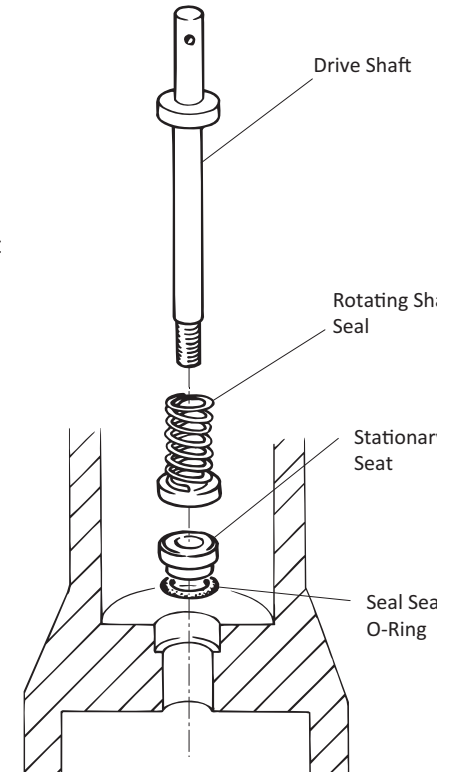

Fig. 21 Replacing the Mechanical Shaft Seal - Laboratory In-Line Mixing Assembly
6.7 REPLACING THE MECHANICAL SHAFT SEAL - IN-LINE MIXING ASSEMBLY (SEE FIG. 21).